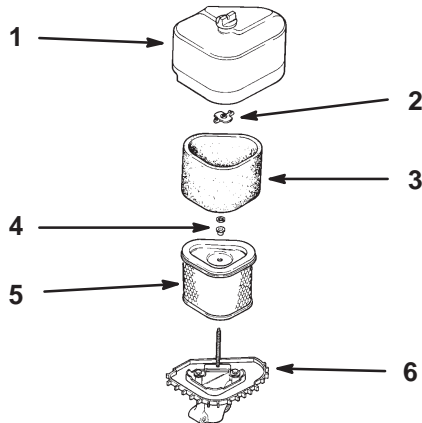

Figure 16
2. Clean around the air cleaner cover to prevent dirt from getting into the engine and causing damage. Unlatch cover (Fig. 16).
3. Carefully slide the foam element off the paper element (Fig. 16).
4. Remove the air cleaner assembly (Fig. 16).
5. Unscrew the cover nut and remove the cover and paper element (Fig. 16).
1. Carefully slide the foam element onto the paper air cleaner element (Fig. 16).
2. Place the air cleaner assembly onto the air cleaner base (Fig. 16).
3. Install the air cleaner cover and secure with cover nuts (Fig. 16).